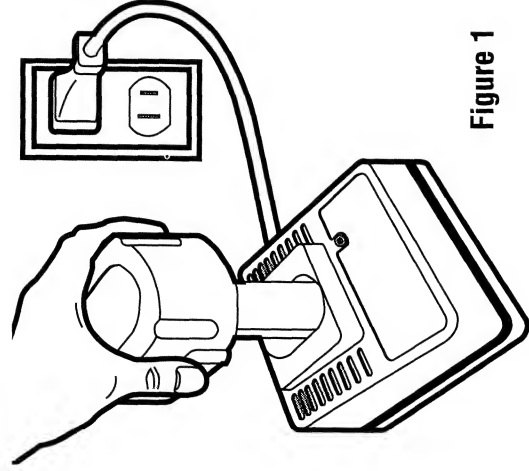

Figure 1
The 98014 and 97014 chargers are designed to charge B&D battery packs in about 1 hour. The 98020 charger is designed to charge B&D battery packs in about 15 minutes. These chargers require no adjustment and are designed to be as easy as possible to operate. Simply place your battery pack into the receptacle of a plugged in charger (Figure 1) and it will automatically charge the pack.
2. Insert the battery pack into the charger, as shown in Figure 1, making sure the pack is fully seated in the charger. The red (charging) light will blink continuously indicating that the charging process has started.